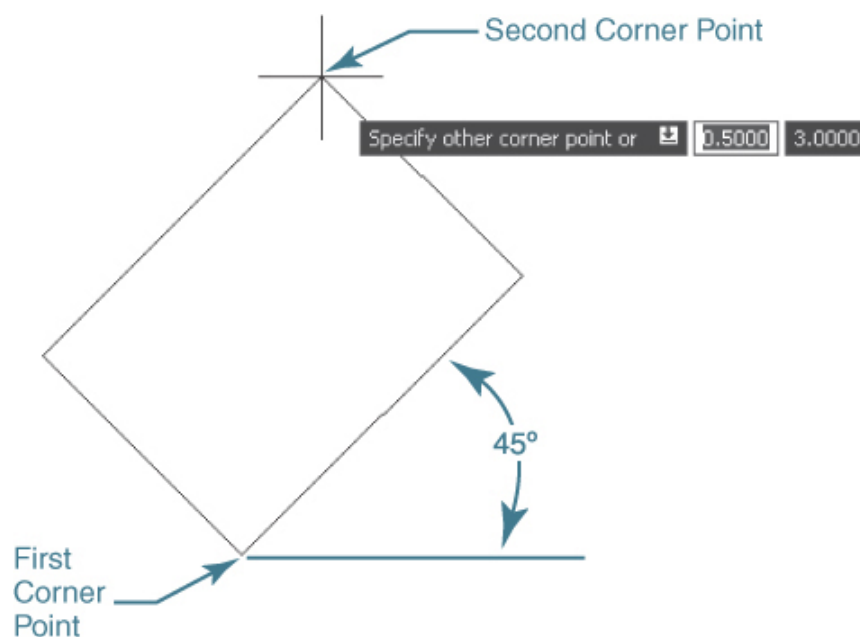

Figure 9-23
The first option requires that you enter the angle by typing it at the keyboard. For instance, to create a rectangle that is rotated 45°, you enter **45<Enter>**. After you enter the angle, the rectangle preview changes to the input angle, and AutoCAD again prompts you to *Specify other corner point or ↓*. You can locate the second corner point using any of the techniques explained in this section, including using the **Dimensions** and **Area** options, as shown in Figure 9-23.
- 4 Create a 3.000" × 2.000" rectangle at a 45° angle similar to the rectangle shown in Figure 9-23 in another location using the **RECTANG** command and the **Angle** option to input the 45° angle.